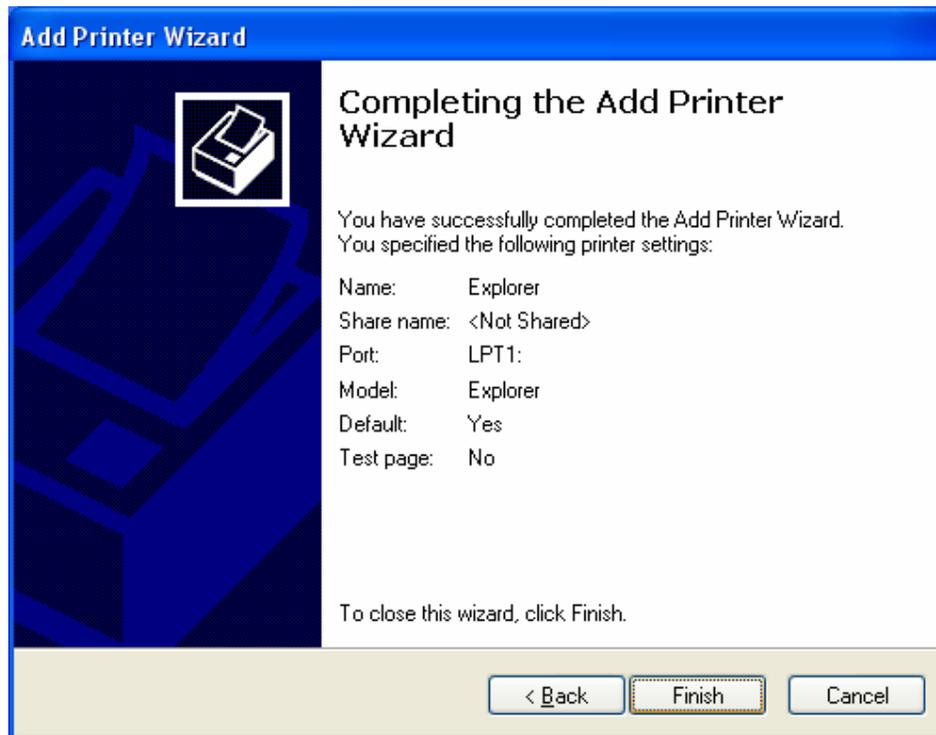

Fig 4-14 Print Driver Installation
STEP 15: Click **FINISH** to complete the Add Printer Wizard (see fig. 4-14)